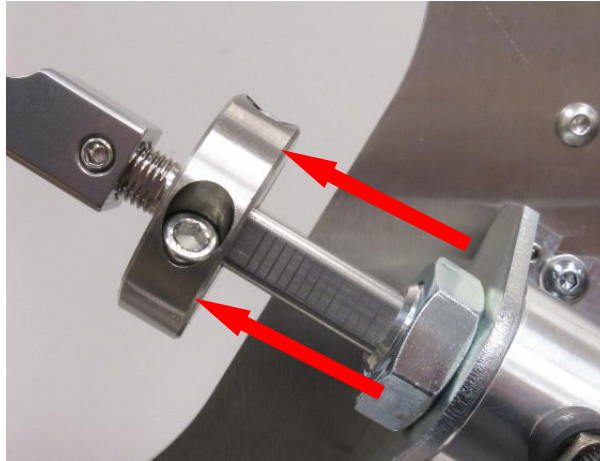

Figure 5
- Using a 3/16" hex wrench, loosen the two (2) bolts on all three (3) stop collars and slide them forward on the cylinder shaft to where the threads start. Retighten the bolts on all three (3) stop collars using the 3/16" hex wrench. **(Figure 5)**